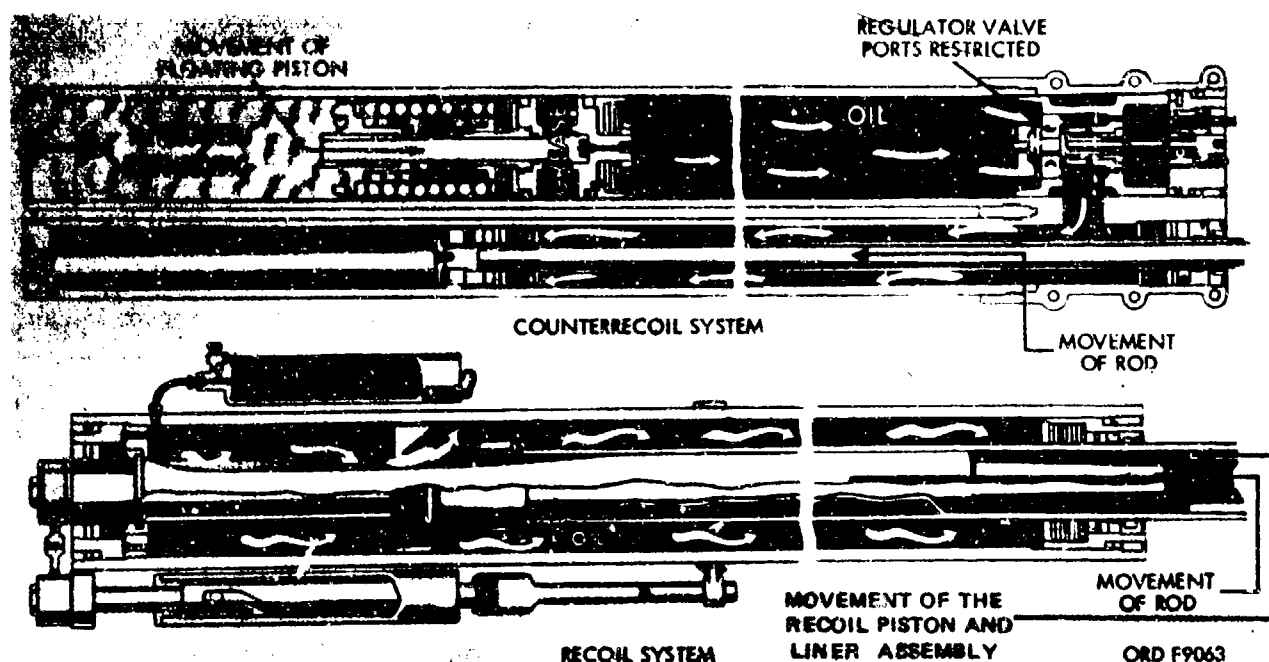

Figure 2-21. Hydropneumatic independent recoil mechanism during counterrecoil action.
(1) The flow of recoil oil stops, and the spring-loaded valve in the regulator valve assembly closes itself. In the head of the recuperator regulator valve are two small counterrecoil controlling ports (fig 2-21), each of which is about 1/16-inch in diameter. These ports control the flow of recoil oil back through the regulator valve assembly and into the counterrecoil cylinder.
(2) Since the floating piston is free to move, the energy stored in the nitrogen gas reacts to displace the floating piston to its normal in-battery position. As the floating piston moves
*d. Counterrecoil buffer system.* The counterrecoil buffer system controls the last few inches of the final movement of the recoiling parts as they return to the in-battery position, thus preventing shock to the carriage as the tube returns to battery. A typical arrangement is a cone-shaped buffer chamber working in conjunction with a tapered rod (fig 2-21). As the counterrecoil action nears its completion, the tapered rod enters the buffer chamber and displaces the oil. As the rod moves farther into the chamber, the clearance between the two becomes less and less as the oil is metered, or buffed. This action causes the counterrecoiling parts to return to rest without slamming and without shock to the carriage.